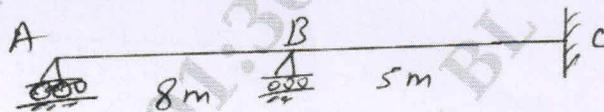

Fig. Q7
- 7 Analyse the beam shown in Fig. Q7 using stiffness method. Adopt displacement transformation approach. The top and bottom surfaces of the continuous beam are heated to 20°C and 10°C respectively. Take $E = 2 \times 10^5 \text{ N/mm}^2$, $\alpha = 1.2 \times 10^{-5} / ^\circ\text{C}$. Draw bending moment diagram.